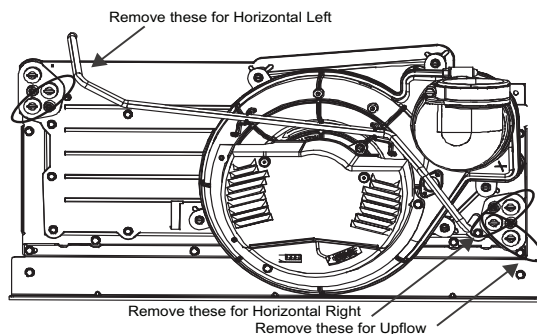

Fig. 13 – Drain Plugs
2. Remove two of the factory-installed drain plugs from collector box. Orientation specific drain plugs (see Fig. 13).
4. Remove appropriate collector box drain plug (see Fig. 13).